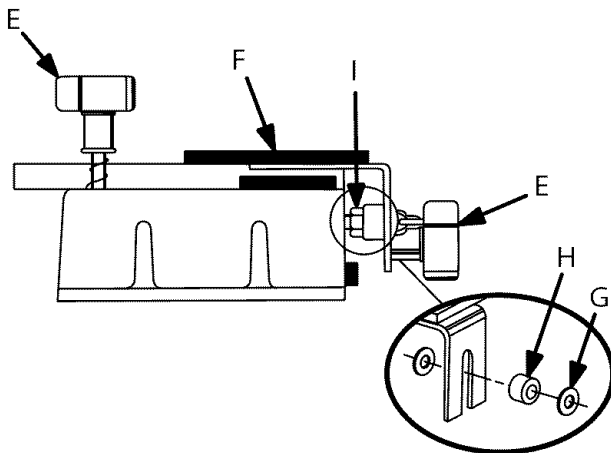

Fig. 36
- Loosen template clamping knobs (E) and remove comb-shaped template (F). do not remove board (A).
- Loosen clamping knobs (E) on top clamping bar and remove scrap piece of wood.
- Replace the scrap piece of wood with the piece that is to be your finished front board (B).
- Place it flush with the edge of board (A), and tighten clamping knobs (E) on top clamping bar firmly.
- Loosen clamping knobs (E) on front clamping bar and remove board (A).
- Attach comb-shaped template (F) to the dovetail base with spacers (G) and (H) in their desired location. See Figure 36. Hold the template flat on the boards with one hand and tighten clamping knobs (E) securely.